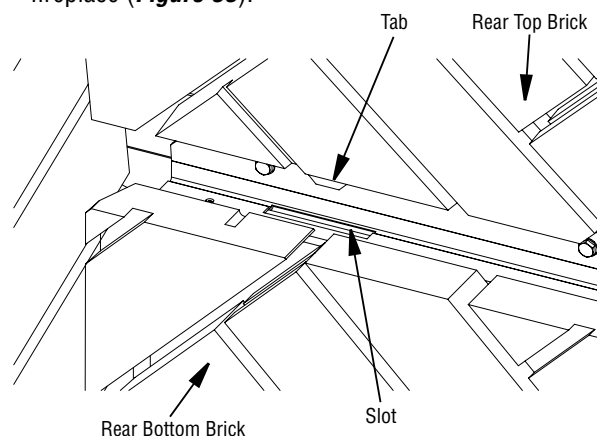
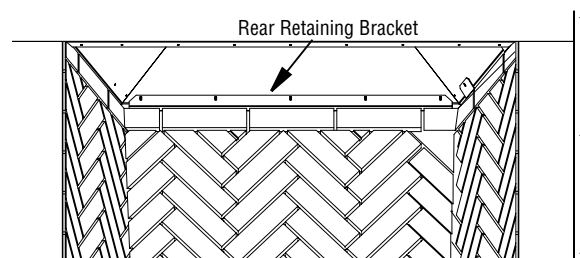

Figure 32 - Installing Rear Top Brick Panel
Figure 33 - Installing Rear Retaining Bracket
- Install the rear top brick panel. Lift the panel up with the front of the brick panel facing toward the front of the fireplace. The bottom of the panel has two tabs that slide into the bracket on the top of the rear bottom brick panel (**Figure 32**). Secure the top of the rear top brick panel with the rear retaining bracket (shipped with fireplace). The bracket will slip underneath the metal lip on the top of the brick panel and screw into the inner dome of the fireplace (**Figure 33**).